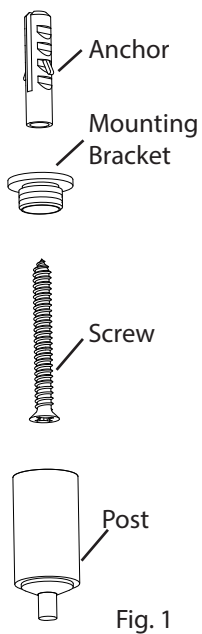

Fig. 1
1. Where applicable: Install the **Mounting Bracket** to the ceiling with **Anchor** (if applicable) and **Screw**, then screw the **Post** onto the Mounting Bracket (Fig. 1).